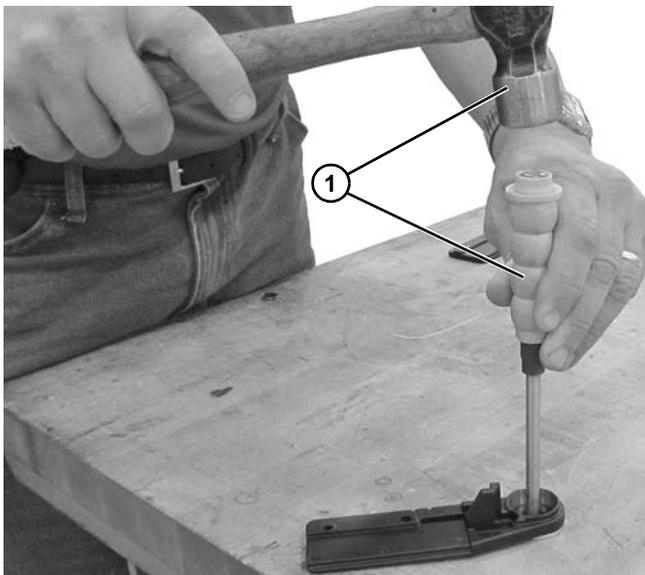
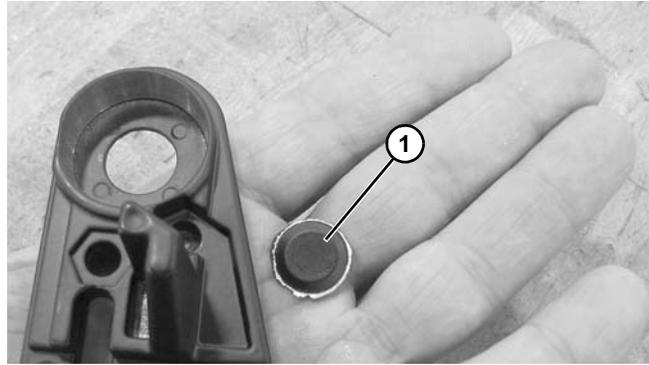

Figure 140
Figure 141
3. Use a hammer and punch (1/4" - 1/2" dia) (**Figure 140, item 1**) or long bolt to knock out slug (**Figure 141, item 1**) for shaft backing up tail plate with washer.